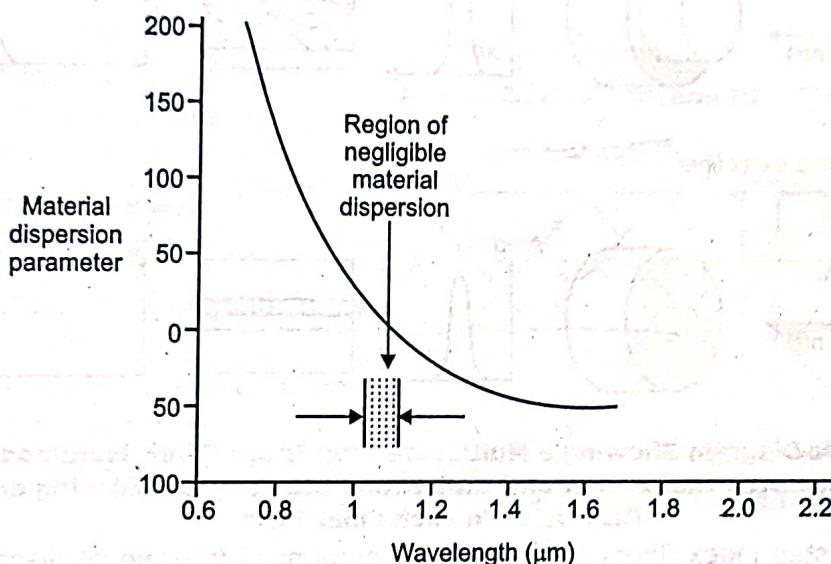

Fig. 2.22: Material Dispersion Parameter for Silica
- Fig. 2.22 shows the variation of the material dispersion parameter M with wavelength for pure silica.